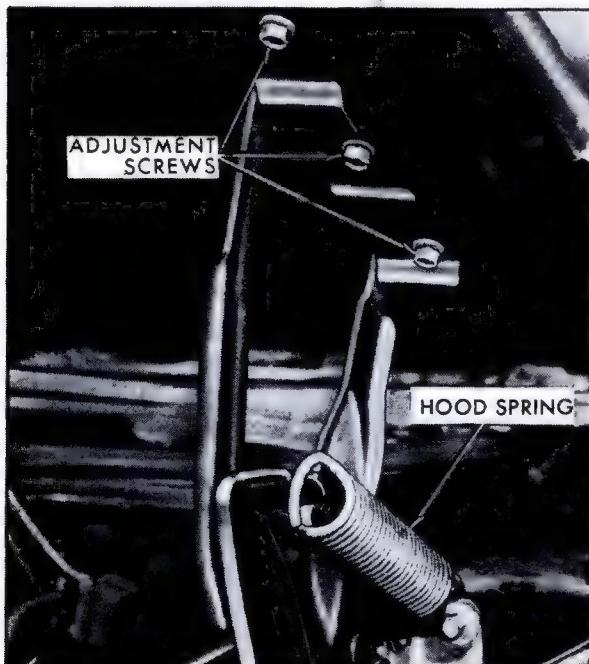

Fig. 11-3 Hood Hinge
2. Hood Panel**a. Removal (Fig. 11-3)**
b. Installation (Fig. 11-3)
1. Loosen hood attaching screws, three at each hood hinge, Fig. 11-3. Elongated holes in hinge
a. Removal (Fig. 11-3)